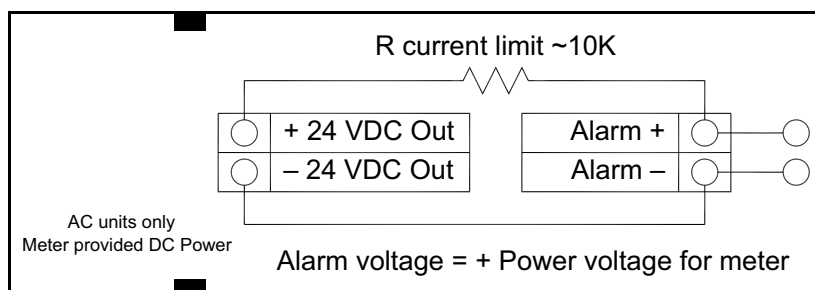

Figure 47: Isolated Alarm Output Using Meter Provided Power Supply
- For AC powered meters only, use the internal 24 VDC power supply (see Figure 47 on page 45). Use this option if the voltage of the alarm output is the same as the voltage supplied to the circuit.